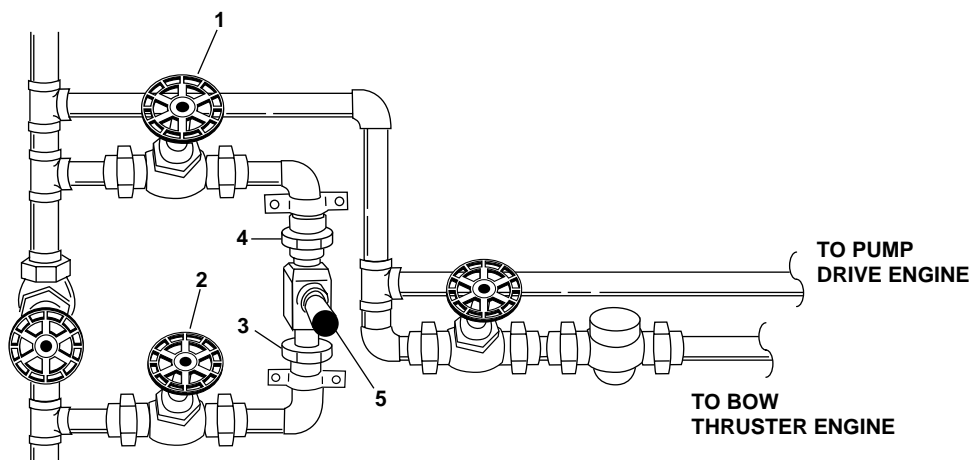

Figure 2. Ship's Starting Air Regulator and Piping
1. Close, lock out, and tag out (FM 55-502) SVCE AIR TK INL CA-39 (figure 2, item 1) and SVCE AIR TK INL CA-40 (figure 2, item 2) located in AMS 1 at the forward bulkhead next to the starting air tank 1.
2. Loosen the inlet union (figure 2, item 3) and outlet union (figure 2, item 4) and free them from the regulator
(figure 2, item 5).
3. Remove the regulator (figure 2, item 5) from the system and place it securely in a vise.
4. Remove and set aside the fittings installed in the regulator (figure 2, item 5).
2. Install the removed fittings into the regulator (figure 2, item 5).
3. Position the regulator (figure 2, item 5) in its piping.
4. Attach and tighten the inlet union (figure 2, item 3) and outlet union (figure 2, item 4).
5. Remove the lockouts and tagouts (FM 55-502). Open SVCE AIR TK INL CA-39 (figure 2, item 1) and SVCE AIR TK INL CA-40 (figure 2, item 2) located in AMS 1 forward bulkhead next to the starting air tank 1.